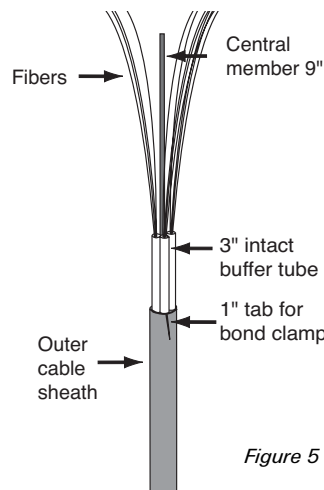

Figure 5
7. Carefully ring cut and remove all but three inches of each buffer tube. Clean the remaining buffer tubes, exposed fibers, central member, and 6" of the cable sheath with a rag and company-approved cleaning solution. (Figure 5)